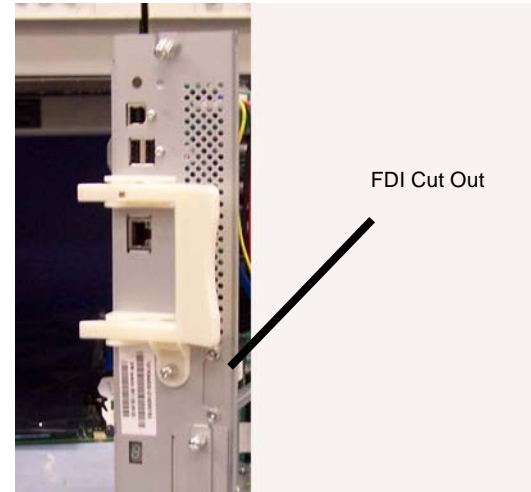

Figure 1 FDI Cut Out Cover
3. Remove the FDI Harness Connector Cutout Cover from the Control Unit (Figure 1)